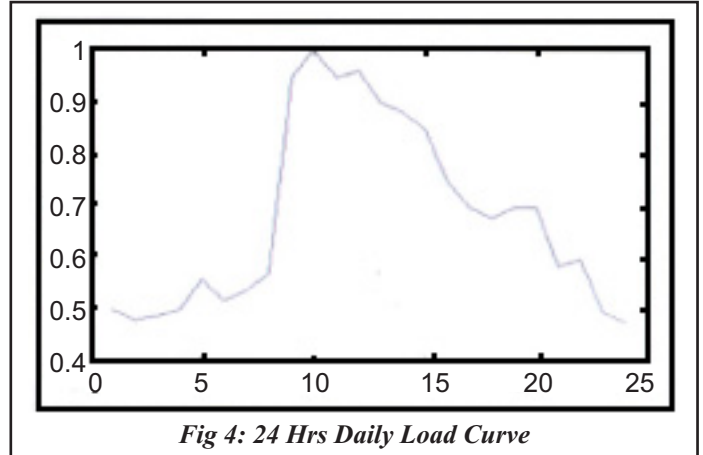

Fig 4: 24 Hrs Daily Load Curve
The work presented in this paper considers PV generation as negative load for the modelling purpose. For a given day the 24-hours solar insolation and temperature are considered and P_{pv} is calculated. Figure 4 is considered as 24 hours load curve. The load for k^{th} hour is calculated using the equation (14) and is used in the radial distribution load flow.